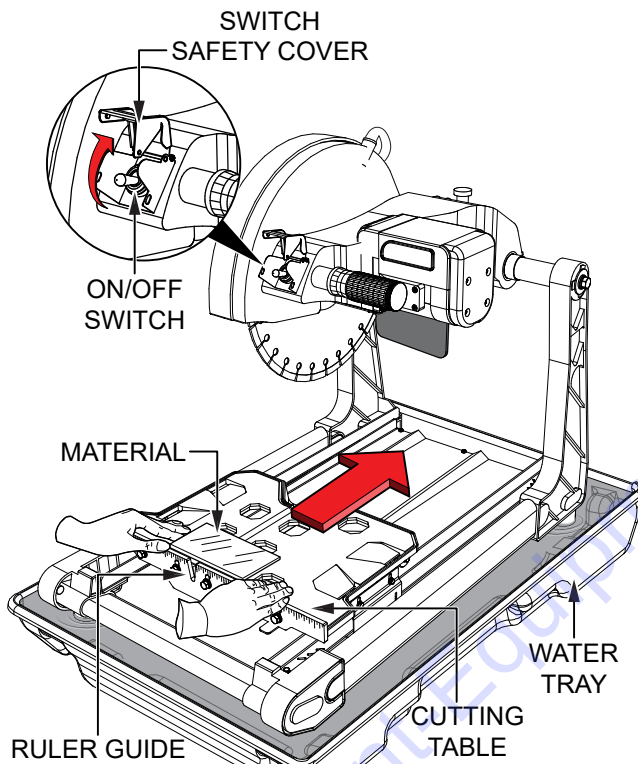

Figure 15. Saw Operation
2. Place the material to be cut flush against the ruler guide on the cutting table (Figure 15).
3. While keeping the material away from the blade, raise the switch safety cover and place the power ON/OFF switch in the **ON** position (Figure 15). The blade will begin to rotate, and water will flow from inside the blade guard onto the blade.
6. When the cut is finished, remove the cut pieces and slide the cutting table back to its original position (Figure 15).